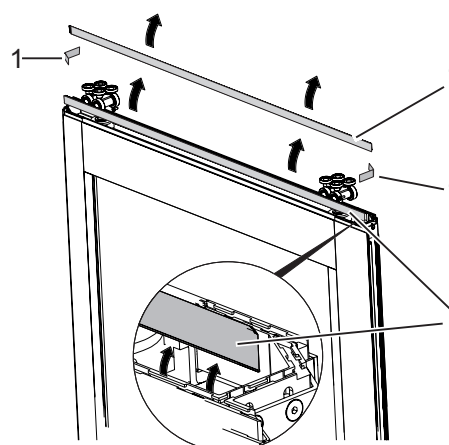

Fig. 42: Brush seals on the front sides
- ☞ Brush seals (Fig. 42/1) are pulled into the profiles on the front sides.
☞ Brush seals (Fig. 42/1) are inserted at the front sides into the profiles.
☞ Brush seals (Fig. 42/1) are inserted at the upper front side.